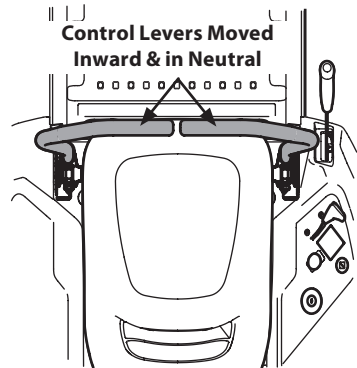

Figure 20
2. Move the RH and LH lapbar drive control levers inward in the neutral position which also disengages the parking brake. See Figure 20.